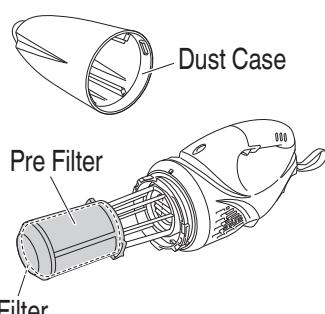

Fig. 12
1. Verify the filter (Fig. 12)